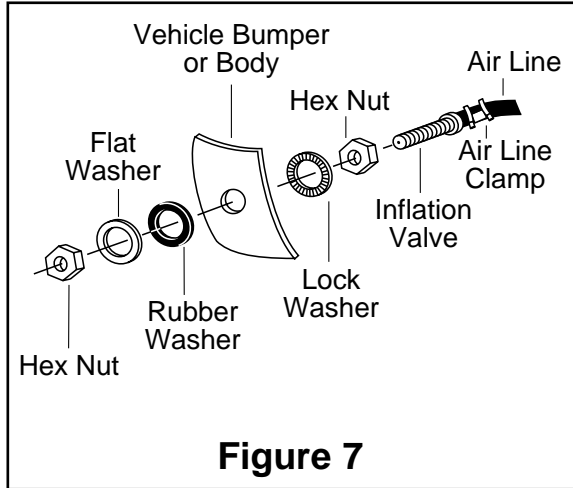

Figure 7
I. Drill a 5/16" hole for inflation valve and mount as illustrated (Rubber washer is for outside weather seal (Figure 7)).
- F. Drill 5/16" hole for inflating valves and mount as illustrated (Rubber washer is for outside weather seal, Figure 7).